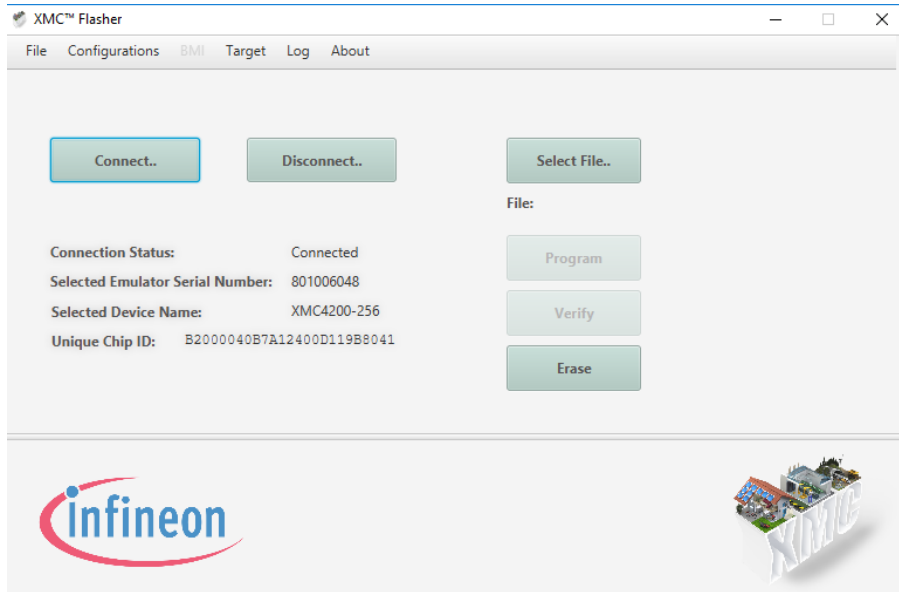

Figure 8. XMCFlasher Connected State Window
**Step 6.** The window will change and show the Connected Status as Connected (Figure 8). Additional information about the device will be shown including the Unique Chip ID.